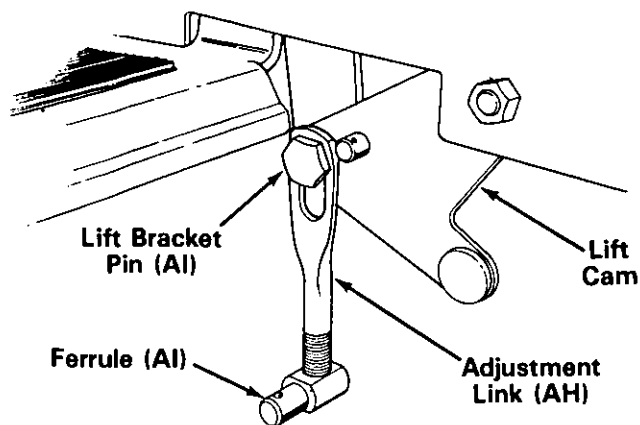

FIGURE 11
12. **Units with serial numbers 126,001 and above:** Attach adjustment links (AH) as follows. See figure 11.
- B. Attach the adjustment link (AH) to the outside of the lift cam and lift link on each side of the unit, using new lift bracket pin (AI), flat washer (T) and hairpin clip (AK).
- C. Thread one ferrule (AI) onto each adjustment link so the ferrule is flush with the end of the adjustment link.